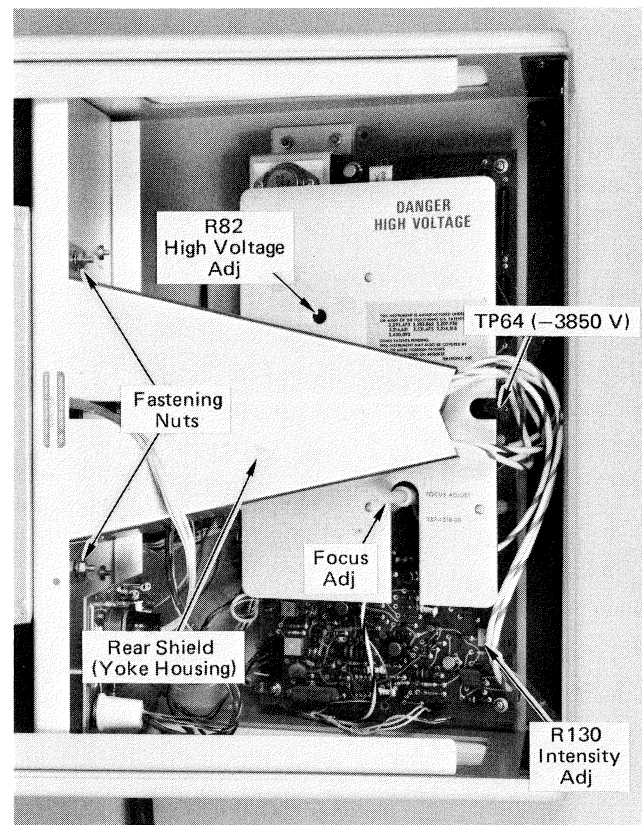

Fig. 4-6. High Voltage Adjustments and Test Points.
a. With the Terminal off, set the voltmeter to read  $-3850$  V DC and connect it to TP64 on the High Voltage and Z Axis board in the back of the display Unit. See Fig. 4-6.
c. After about one minute, check for  $-3850$  V at TP64. Adjust R82 (Fig. 4-6) as necessary to obtain that value.
(3) If necessary, rotate the yoke housing or yoke-mounting bracket (depending on type of assembly to obtain approximate parallelism between the ends of the horizontal line and the top edge of the display area. Two nuts hold the yoke housing in place behind the center divider in the display unit (Fig. 4-6). Final adjustment and tightening of the yoke housing is done in a later step.
(4) Adjust X GEOM for approximate straightness of the vertical line; vertical line to be positioned as close to the left edge of the display area as possible by using the horizontal thumbwheel.
(5) Adjust Y GEOM for approximate straightness of horizontal line, with vertical thumbwheel at its upper limit.
(6) Adjust X GAIN for 18.75 cm (7.4 inches) horizontal line length.
(7) Readjust X POS for horizontal line centering as necessary.
(8) Press PAGE and then enter four Zs. The Zs should store. If storing doesn't occur, increase the OP LEVEL setting while entering Zs until they store. Then press PAGE and again enter four Zs.